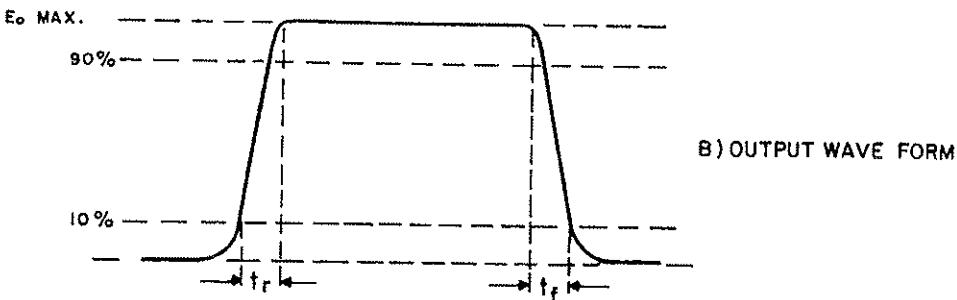

FIG. 5-6 MEASUREMENT OF THE RISE AND FALL TIME
5-24 PROCEDURE (Refer to FIG. 5-6)
- 1) Connect the BOP and the external instrumentation as shown in FIG. 5-6. **Note:** The Signal Generator may be connected (without the 10KΩ resistor) to the BOP front panel VOLTAGE PROGRAMMING INPUT terminals.